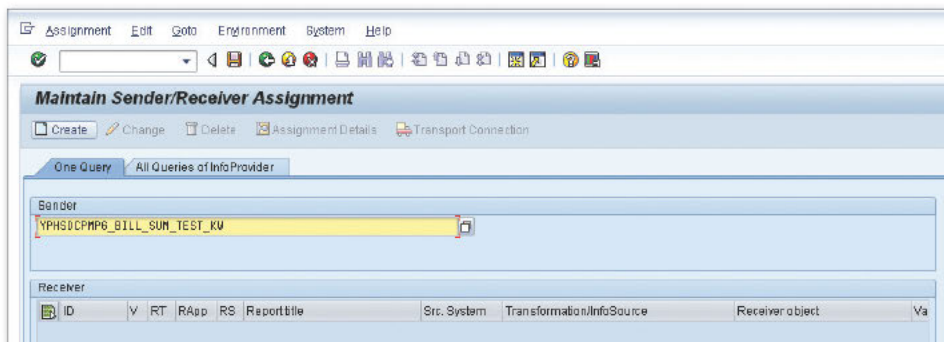

Figure 1 Enter BEx Query in the Sender Field
1. In the MAINTAIN SENDER/RECEIVER ASSIGNMENT screen (Figure 1), enter the BEx query where the report link will be set up in the SENDER field. Click CREATE.